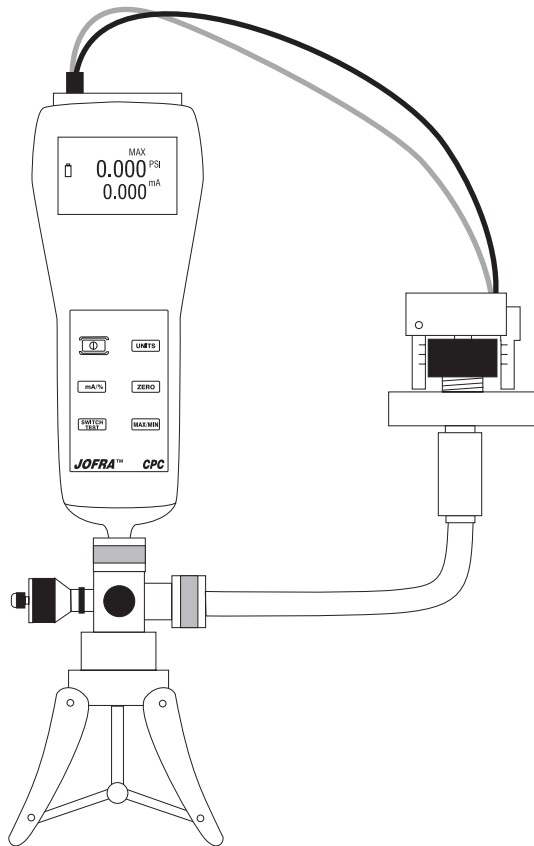

Figure 3
1. Connect the calibrator to the switch using the pressure switch terminals, and connect the pump to the calibrator and the pressure switch. The polarity of the terminals does not matter. This set up is shown in Figure 3.